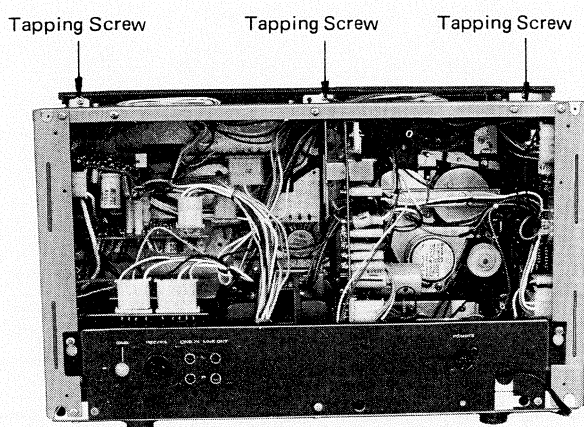

Figure 8. Location of Screws
4. Remove six tapping screws from the chassis. See figures 8 and 9.